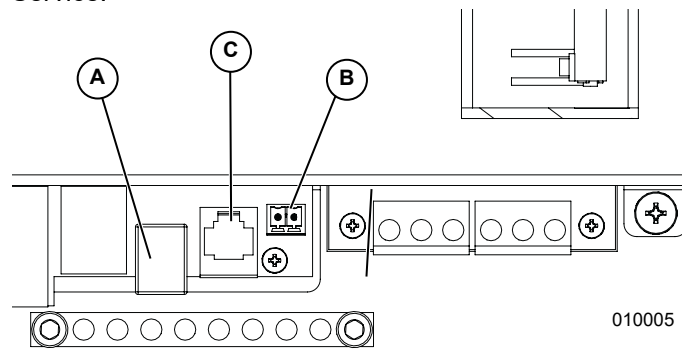

Figure 5-10. Accessory Ports
- If an external safety shutdown switch is required, the switch must be a closed (NC) type switch or button.
- See Figure 5-10. Connect the external safety shutdown switch to stop terminals (B).